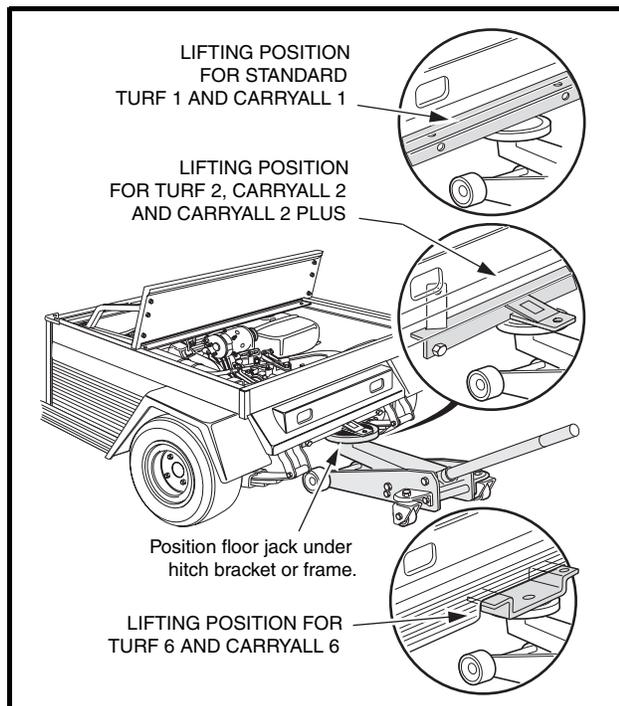

Figure 9-2 Lift Vehicle
2. Place chocks at the front wheels and lift rear of vehicle with a chain hoist or floor jack (**Figure 9-2, Page 9-2**). Position jack stands under the frame crossmember between the rear leaf spring front frame mount and the side stringer, just forward of each rear wheel. Lower the vehicle to let the jack stands support the vehicle. See **WARNING “Lift only one end of the vehicle...”** in General Warning, Section 1, Page 1-1.